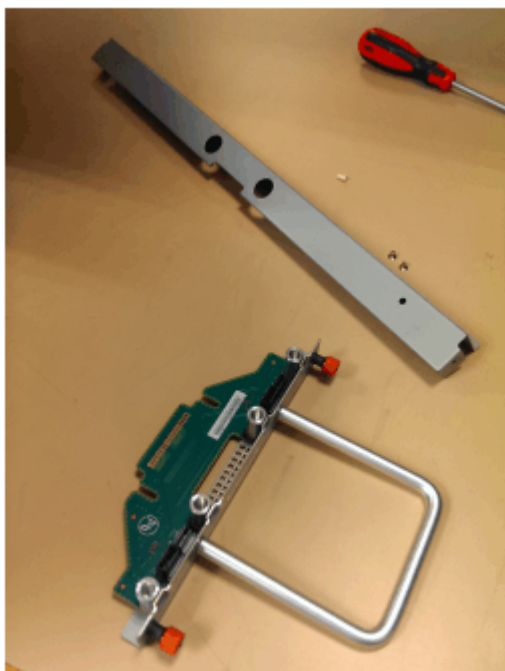

Figure 105. FIB parts removed from the chassis
4. Place the FIB (shown in Figure 105 on page 99) in a safe location.